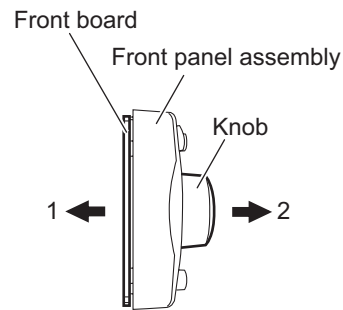

Fig.17
- (3) From the left side of the front panel assembly, pull out the knob in the direction of the arrow 2 while pulling the front board in the direction of the arrow 1. (See Fig.17.)